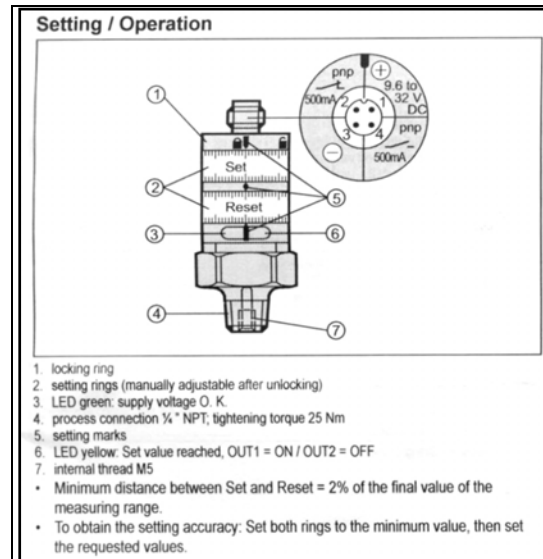

Fig. 2.11
**2.18. Soda Pressure Switch Adjustment.** The switch is adjusted at the factory to “close” at the standard flow and to “open” if the pressure drops. (See Fig. 2.11 below)